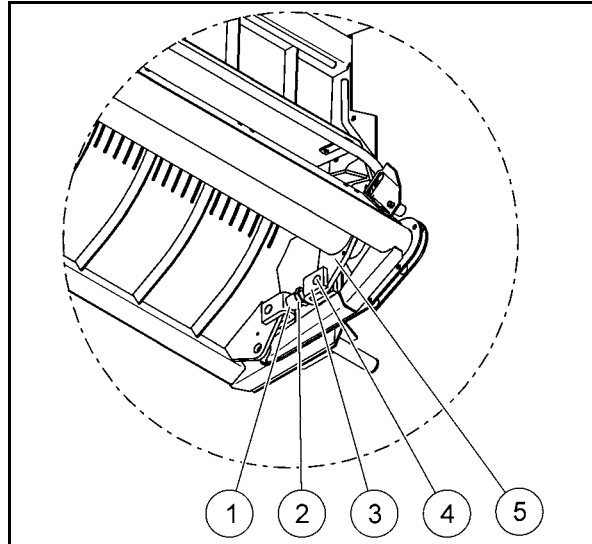

Fig. 171
- 4.1 Unscrew the counter nut (Fig. 171/2).
- 4.2 Remove the bolt (4) to loosen the upper link fork (Fig. 171/3) from the receiver pipe (5).